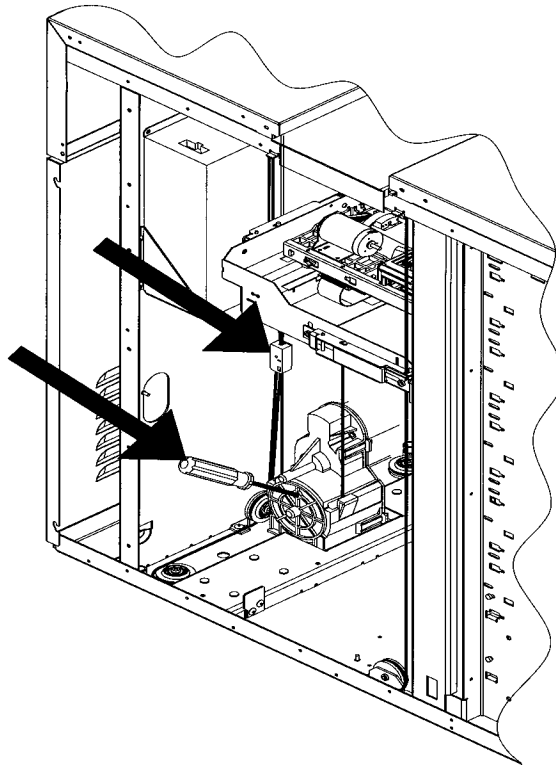

Figure 67: Raising the Translate Frame and Holding the Frame in Position
3. Raise the translate frame up approximately midway up and secure it with a screwdriver inserted into the hole on the rear of the vertical motor gear box (see #2 on Figure 67).